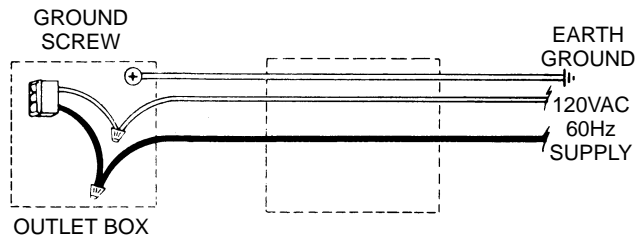

Figure 5 - Wiring Diagram
4. Slide inside sleeve into place again, and pull power cable through outlet box opening. This will determine length of power cable to ventilator. Attach cable to outlet box, using an approved connector and wire as shown. Ground wire may be attached to grounding bolt in outlet box. (See Figure 5.)
7. Slide inside sleeve into place again and pull power cable through outlet box opening. This will determine length of power cable to ventilator. Attach cable to outlet box, using approved connector, and splice cable to receptacle leads in outlet box cover. Ground wire may be attached to grounding bolt in outlet box. (See Wiring Diagram, Figure 5.)